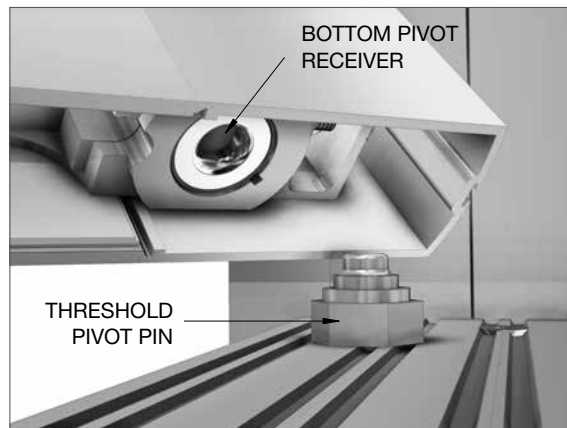

FIG. 33
8. Set the bottom pivot receiver onto the threshold pivot pin (**FIG. 33**).